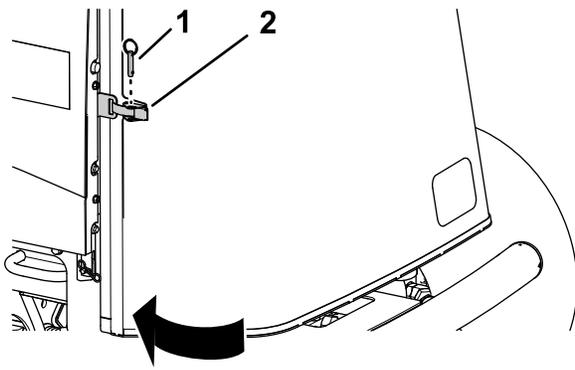

Figure 103
1. Close and latch the screen (Figure 103).